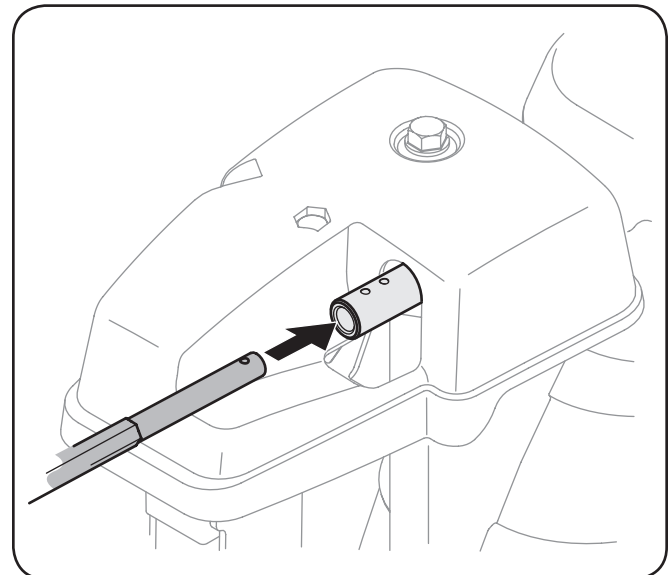

Figure 3-7
2. Insert chute control rod into chute control head. Push rod as far into chute control head as possible, keeping the holes in the rod pointing upward. See Figure 3-7.